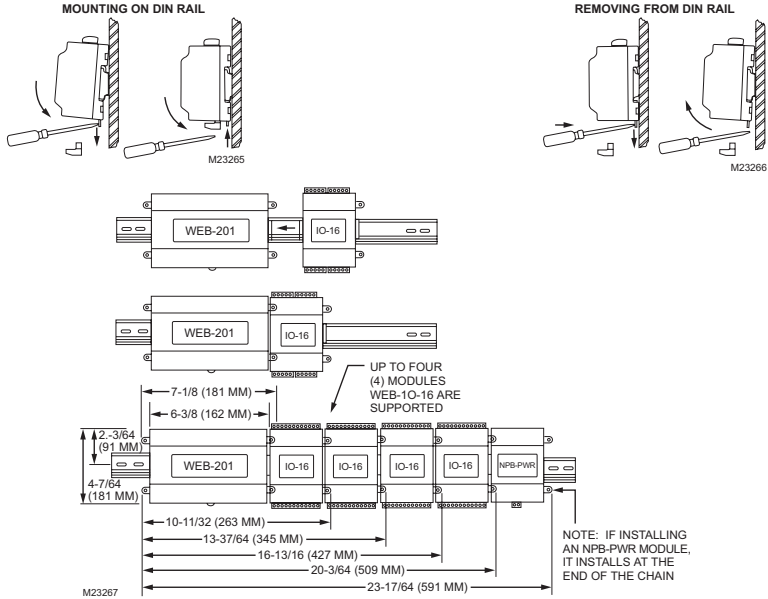

Fig. 2. WEB-IO-16 Module mounting details.
- DIN rail, type NS35/7.5 (1.4 in. x 0.3 in [35 mm x 7.5 mm]) recommended for mounting with WEB-201 controller. The DIN rail should be of sufficient length to accommodate both the WEB-201 controller and all WEB-IO-16 modules and other modules. See Fig. 2.
NOTE: If installing the WEB-201 controller and WEB-IO-16 module at the same time, refer to the WEB-201 INSTALLATION INSTRUCTIONS document literature no. 95-7722 to install the WEB-201 controller. A maximum of 4 WEB-IO-16 modules are supported. See Fig. 2.
Step 2	Position the WEB-IO-16 module on the rail, tilting to hook DIN rail tabs over one edge of the DIN rail. (See Figs. 2 and 3)
NOTE: To remove WEB-IO-16 module from DIN rail, slide it away from other modules. Insert a screwdriver in the center plastic locking tab and pull downwards, then lift the unit outwards. It may be necessary to remove an I/O connector plug as shown at the top of Fig. 2.